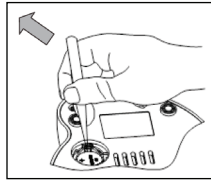

Fig. 3
3. To remove the battery slide the metal tab outwards (you can use a sharp object), and the battery will eject, figure 3.